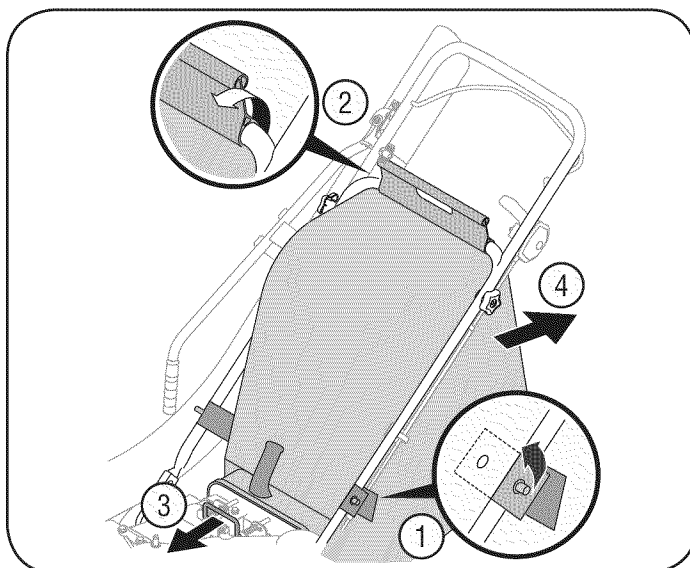

Figure 13
2. Unsnap bag clip from the top of lower handle. See Figure 13.